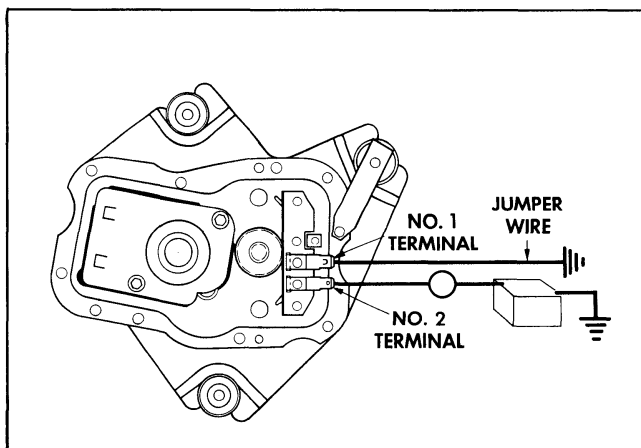

Fig. 11-77 Connections for Test Purposes
Fig. 11-77 shows the proper method of connecting jumper leads to the wiper so that it can be operated independently of the dash switch or car wiring for test purposes. **NOTE:** Specification table at end of this section lists current draw data.
2. If everything checks out in Step 1 and wiper fails to operate, disconnect wiring harness from wiper and check for 12 volts at harness terminal that connects to wiper terminal No. 2, Fig. 11-77.
3. Connect 12 volt supply to No. 2 wiper terminal and connect a jumper wire from terminal No. 1 to ground (Fig. 11-77). If wiper operates, the dash switch or wiring between dash switch and wiper is defective.
2. If wiper still operates in Step 1, disconnect wiring from wiper and connect 12 volt supply direct to wiper terminal No. 2 (Fig. 11-77). Do not connect any jumper wire to terminal No. 1.
Connect 12 VDC Power source and ammeter to wiper as shown in Fig. 11-77 and observe current draw and wiper operation. **NOTE:** Identify wiper part number from wiper motor end cap and select proper current draw from specification table.
Wiper crank arm stops rotating immediately when jumper wire is disconnected from wiper terminal No. 1 (Fig. 11-77). **NOTE:** When crank arm has reached park position the crank arm index grooves will line up approx. with the ridges on the gear box cover.
Wiper crank arm fails to stop in park position when jumper wire is removed from wiper Terminal No. 1. Fig. 11-77.
2. Check for grounded condition in the internal motor lead that connects to terminal No. 1, Fig. 11-77.